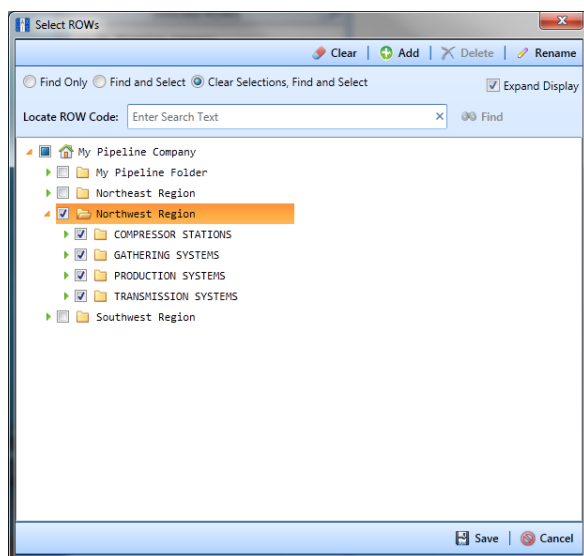

Figure 14-27. Select ROWs
- 1 Select one or more pipeline segments in the *Select ROWs* window. Choose pipeline segment(s) with facilities you want to include in the report. Click  **Save** to close the window (Figure 14-27).
- 1 Select one or more pipeline segments in the *Select ROWs* window. Choose pipeline segment(s) with facilities you want to include in the report. Click  **Save** to close the window (Figure 14-27, page 562).